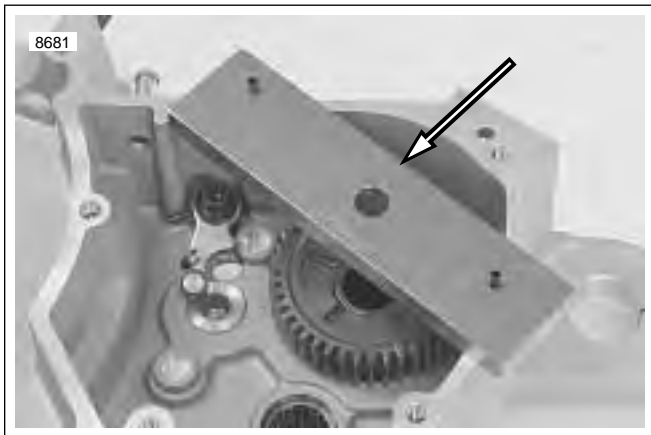
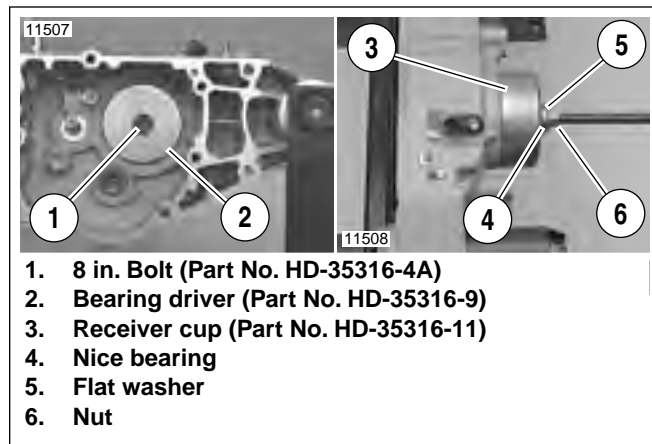

Figure 6-68. Bearing Remover Cross Plate Mounting (Part No. B-45847)
Figure 6-70. Removing Main Drive Gear Bearing (Typical)
4. See Figure 6-68. Place cross plate on crankcase as shown.
2. See Figure 6-68. From inside crankcase, position BEARING DRIVER (Part No. HD-035316-9) (2) over main drive gear bearing.
3. Insert 8 IN. BOLT (Part No. HD-35316-4A) (1) through bearing driver and bearing.
4. See Figure 6-70. At outside of case, slide RECEIVER CUP (Part No. HD-35316-11) (3) onto bolt and over bearing. Install NICE BEARING (4), FLAT WASHER (5) and NUT (6) over end of bolt.